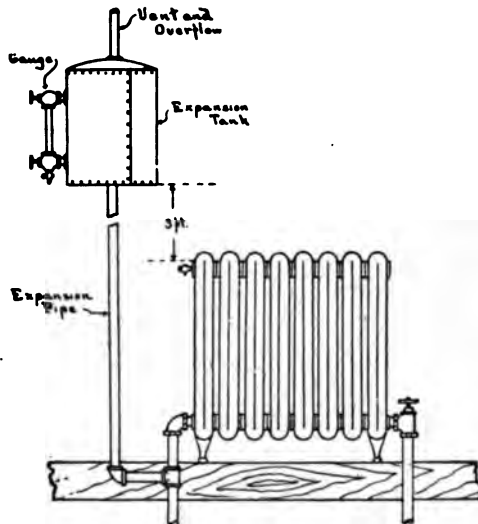

Fig. 73.—Expansion Tank Connection—No Circulation.
A. (a) This method is illustrated by Fig. 73. The expansion line may be connected from the return of one of the high radiators on the system as shown, or it may be run to the basement and there connect with the return at the boiler.